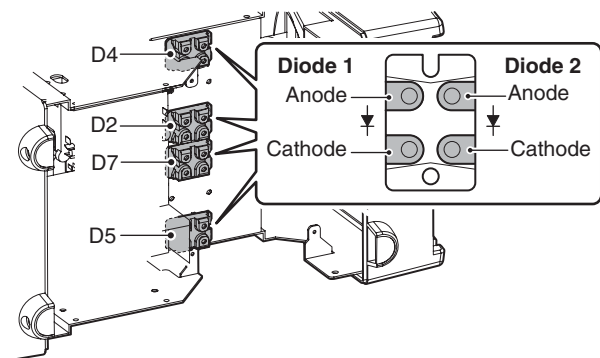

Figure 11-15: Tester checkpoints for D2-D7
- 2) Refer to Table 11-6 and Figure 11-15 for the checkpoints on D2-D7.